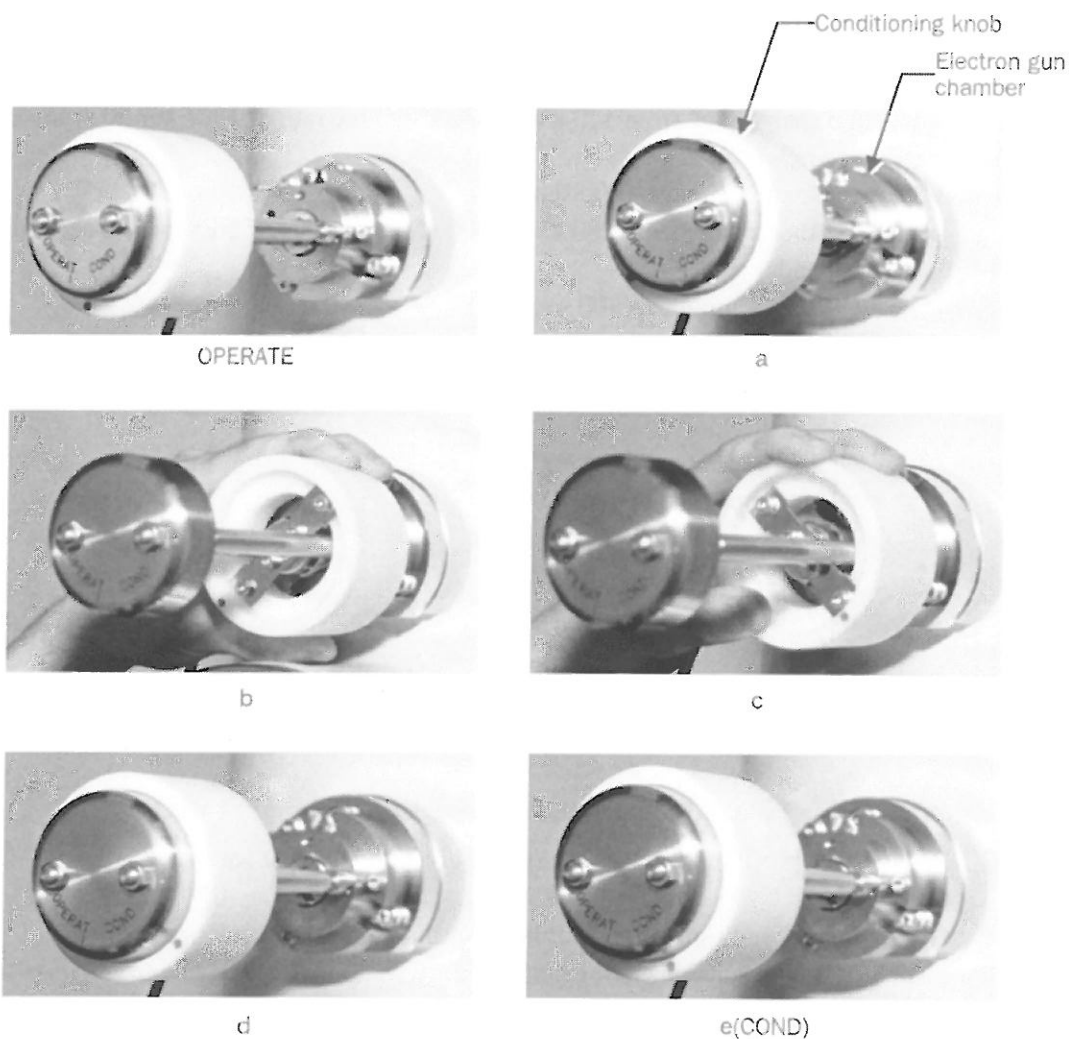

Fig. 5.13 Conditioning knob
- a. Turn the knob fully clockwise (Fig. 5.13-a).
- b. Push it in toward the gun chamber until it stops (Fig. 5.13-b).
- c. Turn it fully counterclockwise (Fig. 5.13-c).
- d. Pull it out until it stops (Fig. 5.13-d).
- e. Turn it fully clockwise (Fig. 5.13-e).